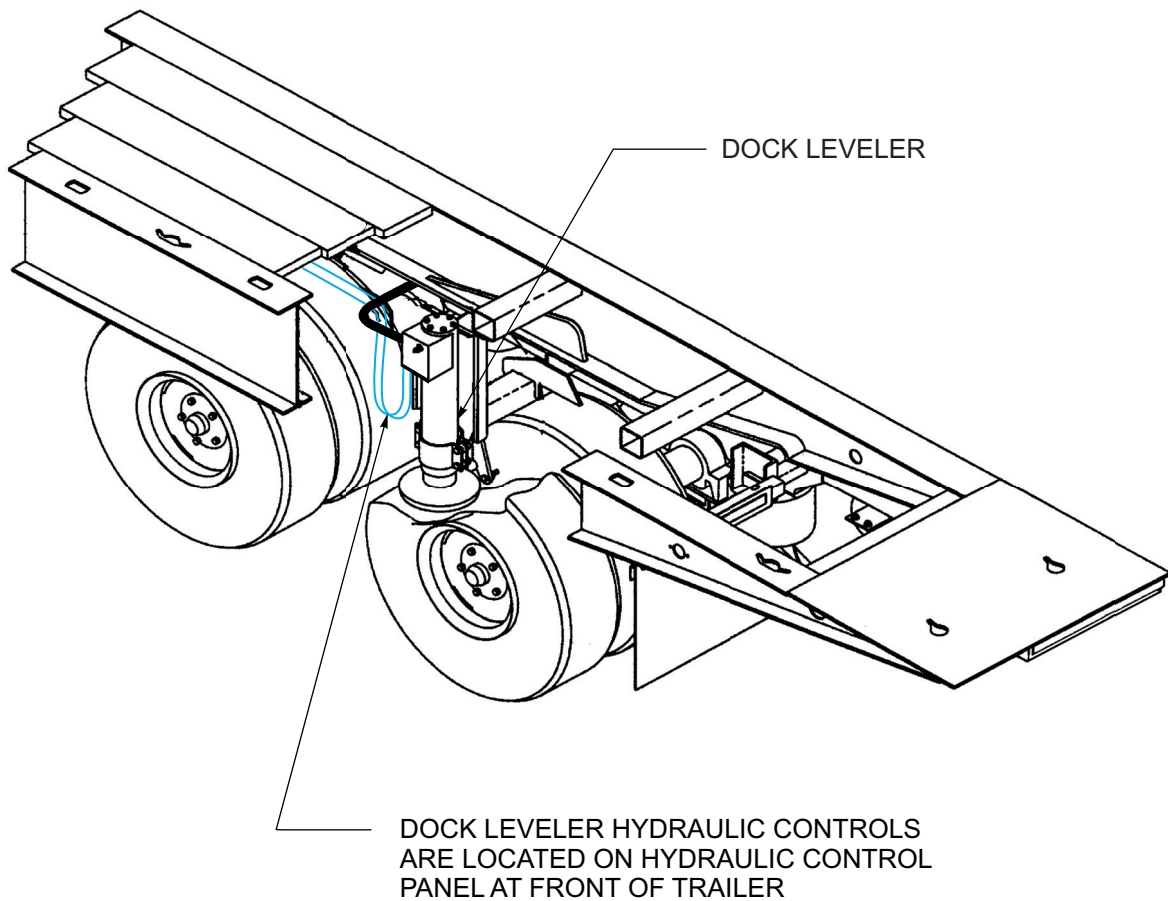

Figure 3-12: Dock Leveler Operation
2. If your semitrailer is equipped with optional dock leveler hydraulics, these may be used to level the rear of the semitrailer to a loading dock. The dock leveler pair is located at the rear of the trailer between the axles (See Figure 3-12.)